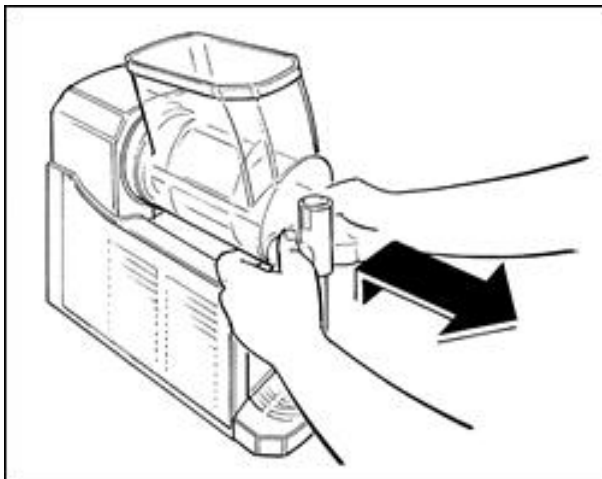

Fig. 36
- Pull the tank outward, as shown, to completely remove it from its seat (Fig. 36).